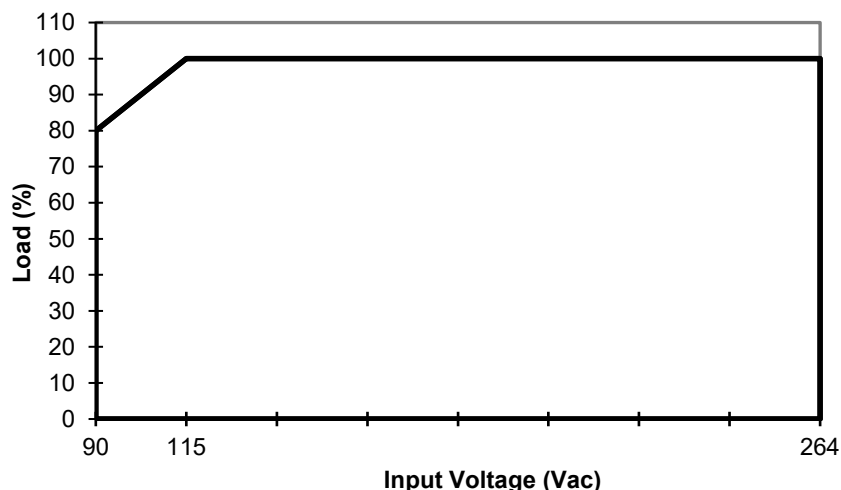

**Fig. 1 De-rating for Vertical and Horizontal Mounting Orientation**
1. Power supply components may degrade, or be damaged, when the power supply is continuously used outside the shaded region, refer to the graph shown in Fig. 1.